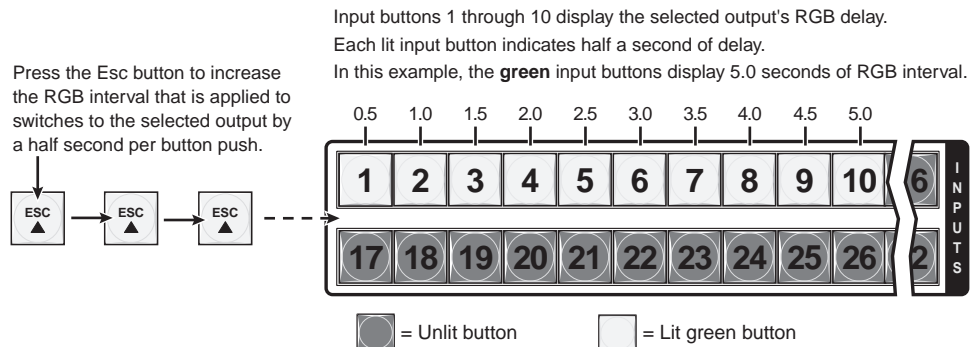

Figure 3-40 — Adjust the RGB delay interval
4. Press and release the Esc (▲) button once (figure 3-40) to increase the RGB delay by a half second.
Figure 3-40 show the result of pressing the Esc (▲) button a total of 3 times.